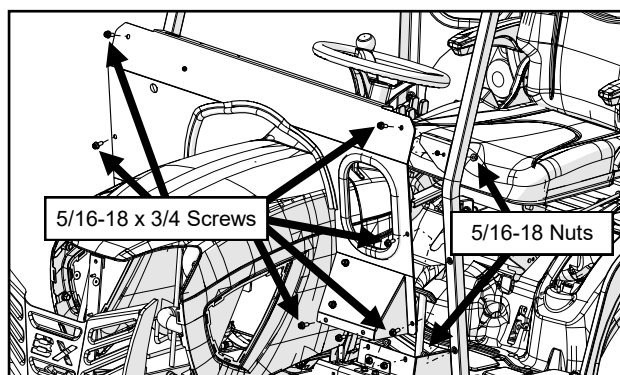

Fig. 7.1 (Install Cowl)
- 7.1 With assistance, slide the cowl over the top of the hood and engine side covers using **CAUTION** not to scratch the plastic components. Secure the cowl to the A-pillars with hardware listed below. See Figure 7.1.